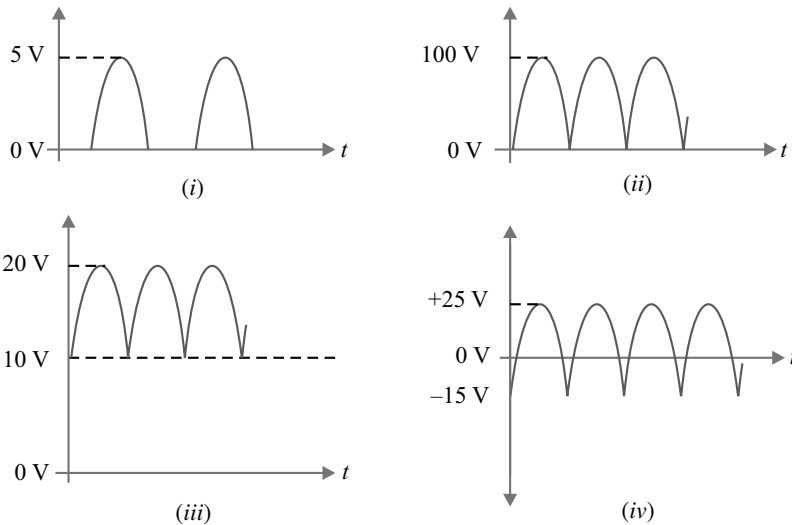

Fig. 4.90
14. Find the average value of each voltage in Fig. 4.90.